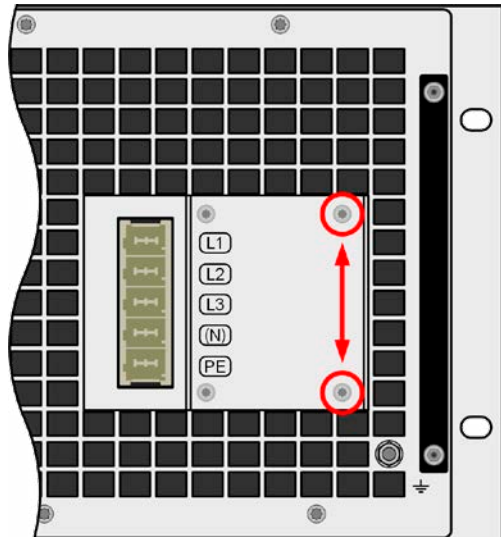

Figure 11 - Mounting position of the bracket
1. Remove the two screws from the AC filter box as marked in *Figure 11* below.